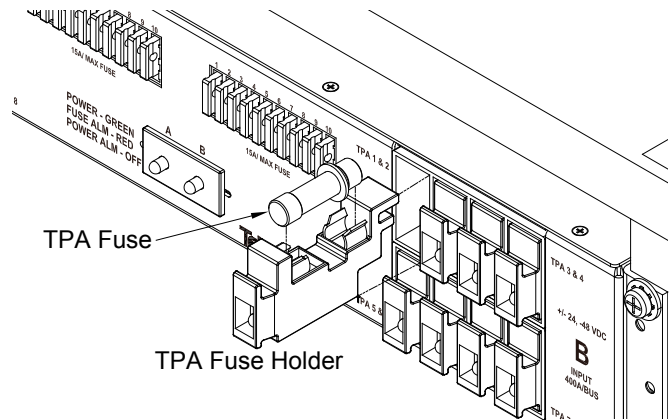

Figure 9 - Installing TPA Fuses
- For a TPA fuse, pull out TPA fuse carrier and insert operable fuse, as shown in Figure 9.